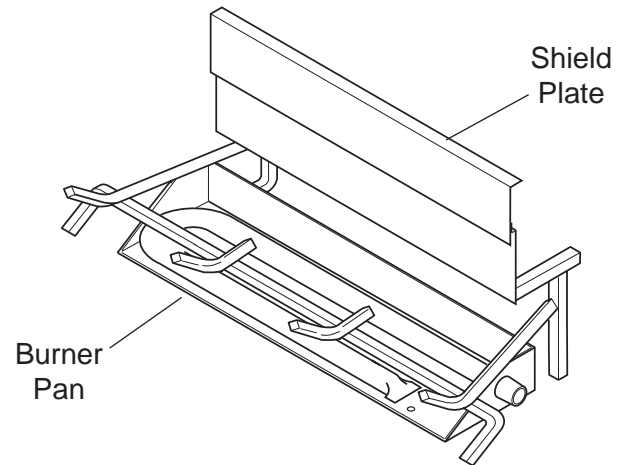

Figure 92- Sliding Shield Plate Down Back of Burner Pan
1. Slide shield plate down back of burner pan. *See Figure 92.*